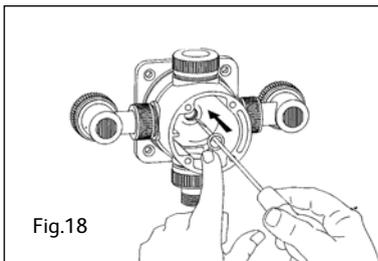

Fig.18
9. The new O-ring may be fitted into position by first sliding it onto the blade of a screwdriver. Hold the tip of the screwdriver into the hot water way and then manoeuvre the O-ring down into position (Fig 18).